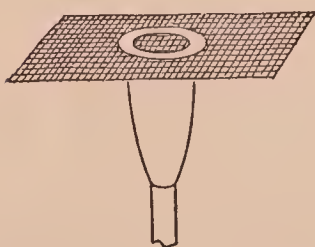

FIG. 62. — Studying the cones of a Bunsen flame
(2) Press a piece of wire gauze down upon the flame. Note the appearance of the gauze (Fig. 62).